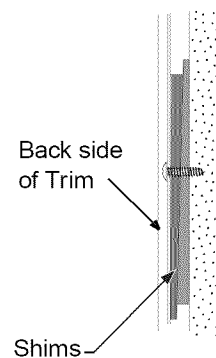

Figure 8
- Shim as necessary (shims are not included). See Figures 8 and 9 and 10. Next, secure both ends of top trim (A) to cabinetry using two 3/4" mounting screw (M) through the holes at each end. Make sure all three screws are snug across the top.